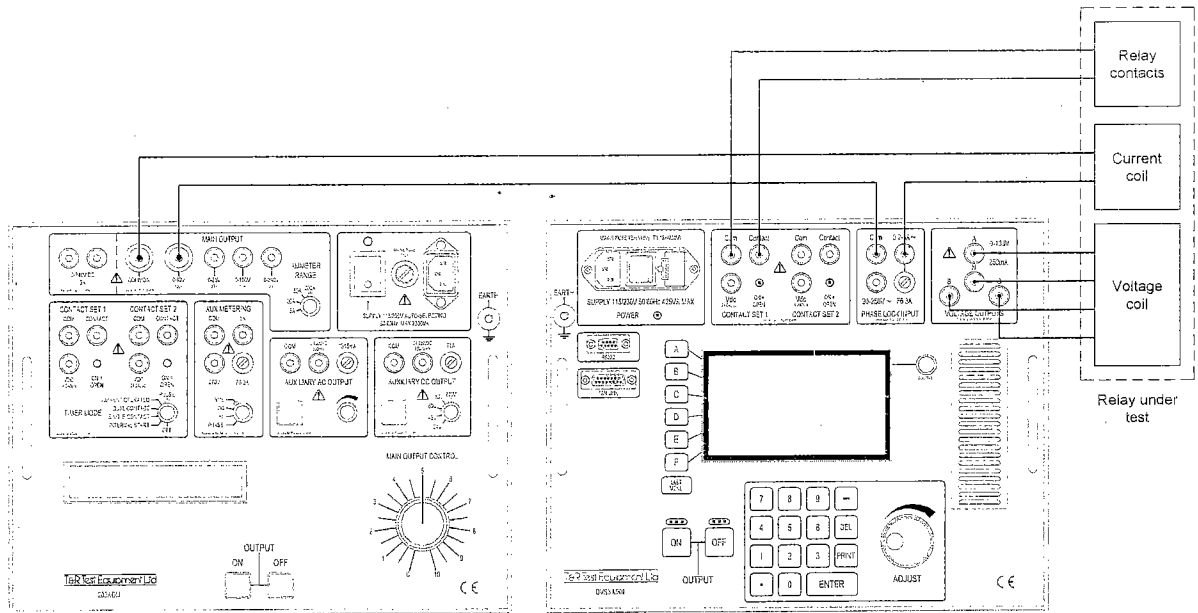

Figure 3.5 Connections for directional relays
- Connect an auxiliary supply to the relay if required (not shown in figure 3.5). The auxiliary dc supply output from the 200ADM may be used for this purpose.